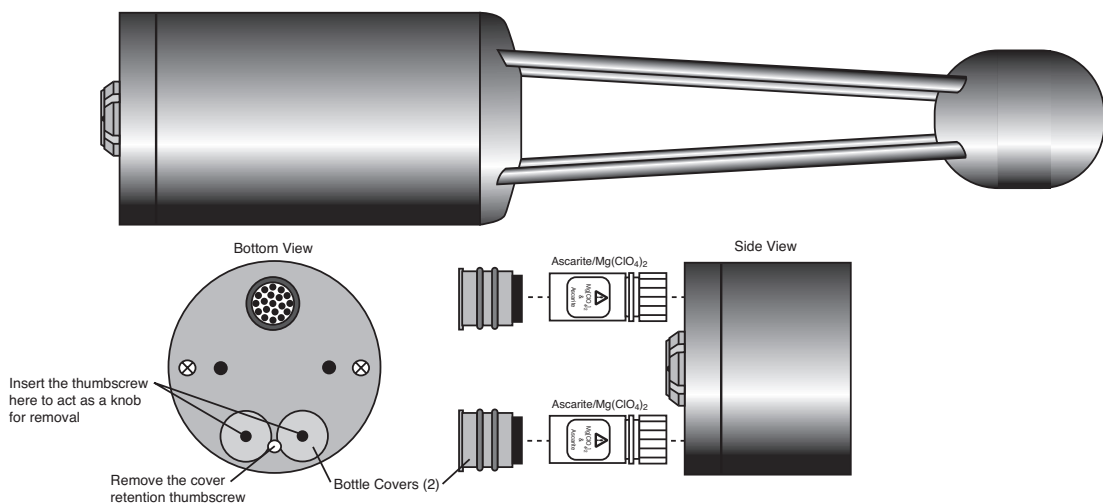

Figure 6-5. Remove the thumbscrew, thread into the bottle covers and replace the chemicals.
3. There are two bottle covers, each with an O-ring seal, at the base of the sensor head (Figure 6-5). Remove the cover retention thumbscrew. Thread this same screw into each bottle cover and pull straight out.